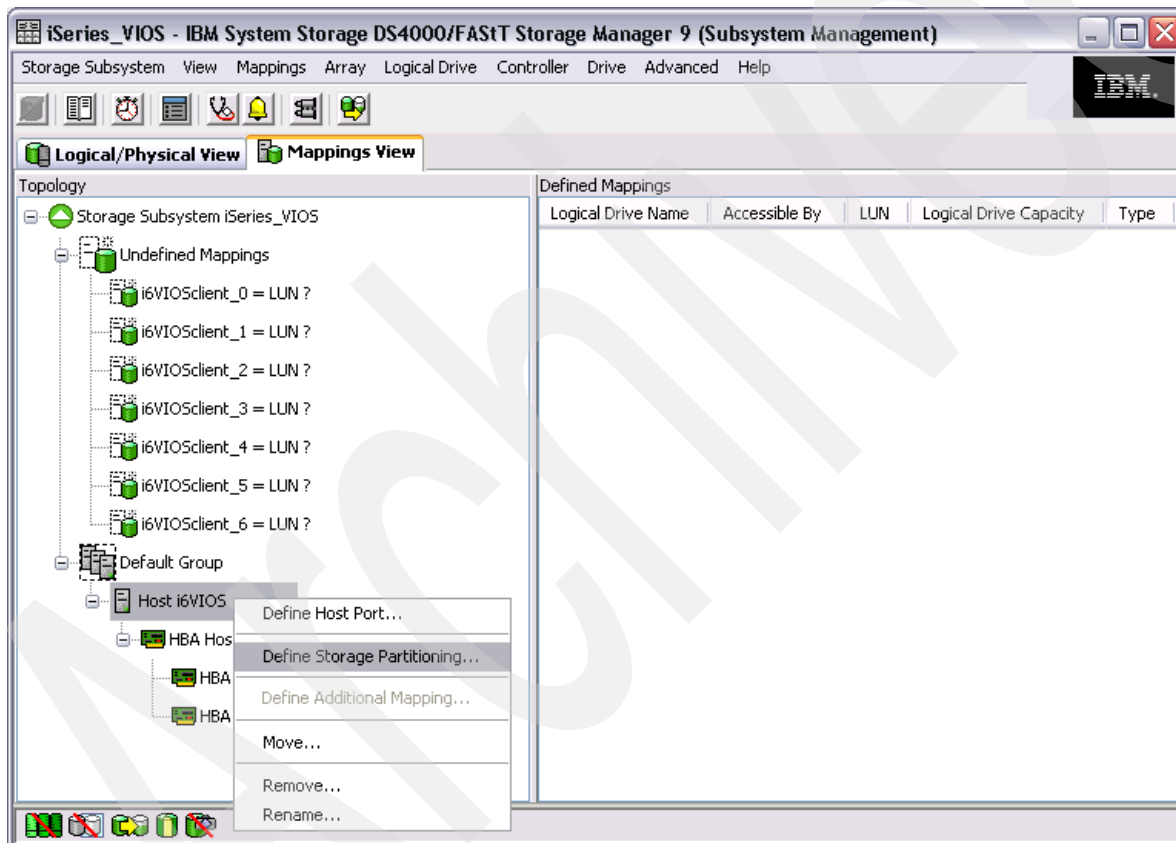

Figure 7-74 DS Storage Manager Mappings View Define Storage Partitioning context menu
1. We perform the initial logical drives to LUN mapping by using the Storage Partitioning wizard, which we invoke by right-clicking our VIOS host in the default group of the DS Storage Manager Mappings View and selecting **Define Storage Partitioning** from the context menu, as shown in Figure 7-74.